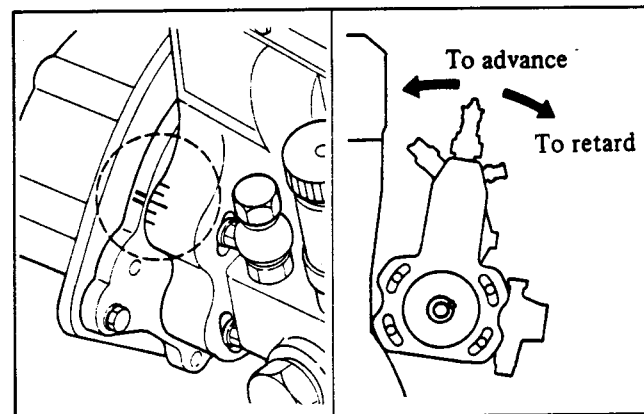

Figure 14
B. Each mark on the injection pump coupling equals 6 degrees of crank angle (Fig. 14).